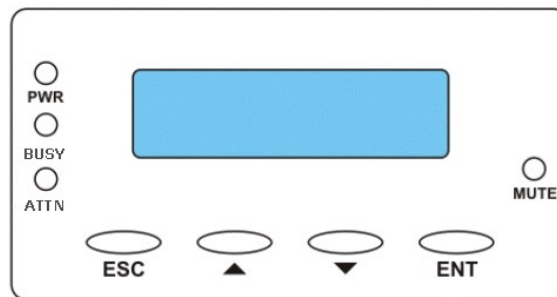

Figure 3-3: LCD Panel LEDs
The LCD keypad panel comes with three (3) status-indicating LEDs. The LEDs on the front panel are marked, from top to bottom, **PWR**, **BUSY**, and **ATTN**, as shown in *Figure 3-3* below. The definitions of these LEDs are shown in *Table 3-5*.